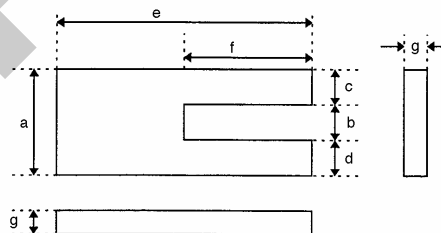

Figure 1
2.2.1 A clamp should be suitable for each leadframe type. Example of the clamp design, for a typical 40 pins DIP leadframe, is shown in Figure 1.